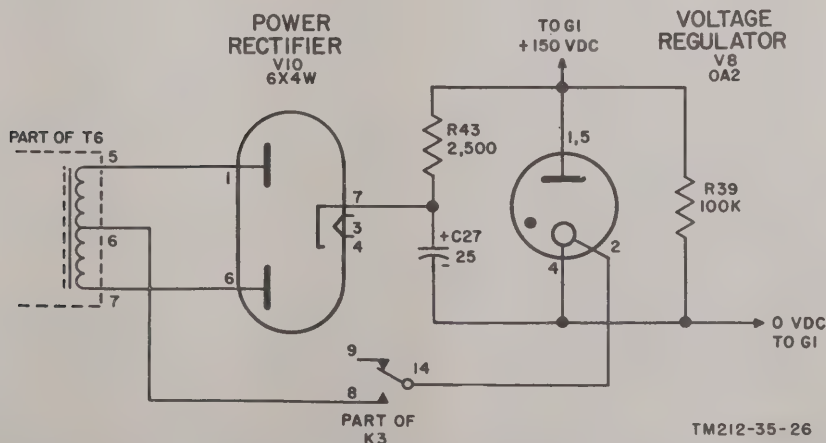

Figure 26. Generator power supply, 20-cps.
*d. 20-cycle Ringer Power Supply* (fig. 26). Energizing of ringing transfer relay K3 connects the cathode circuit of tube V8 through contacts 8-14 of relay K3 to the center tap of the power supply winding of transformer T6. The ac voltage from transformer T6 is rectified by tube V10 and fed through an L-section filter circuit comprised of capacitor C27 and resistor R43 to voltage regulator tube V8. Resistor R43 also acts as a current-limiting